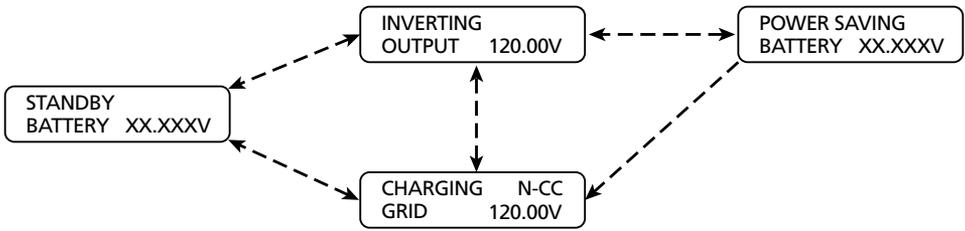
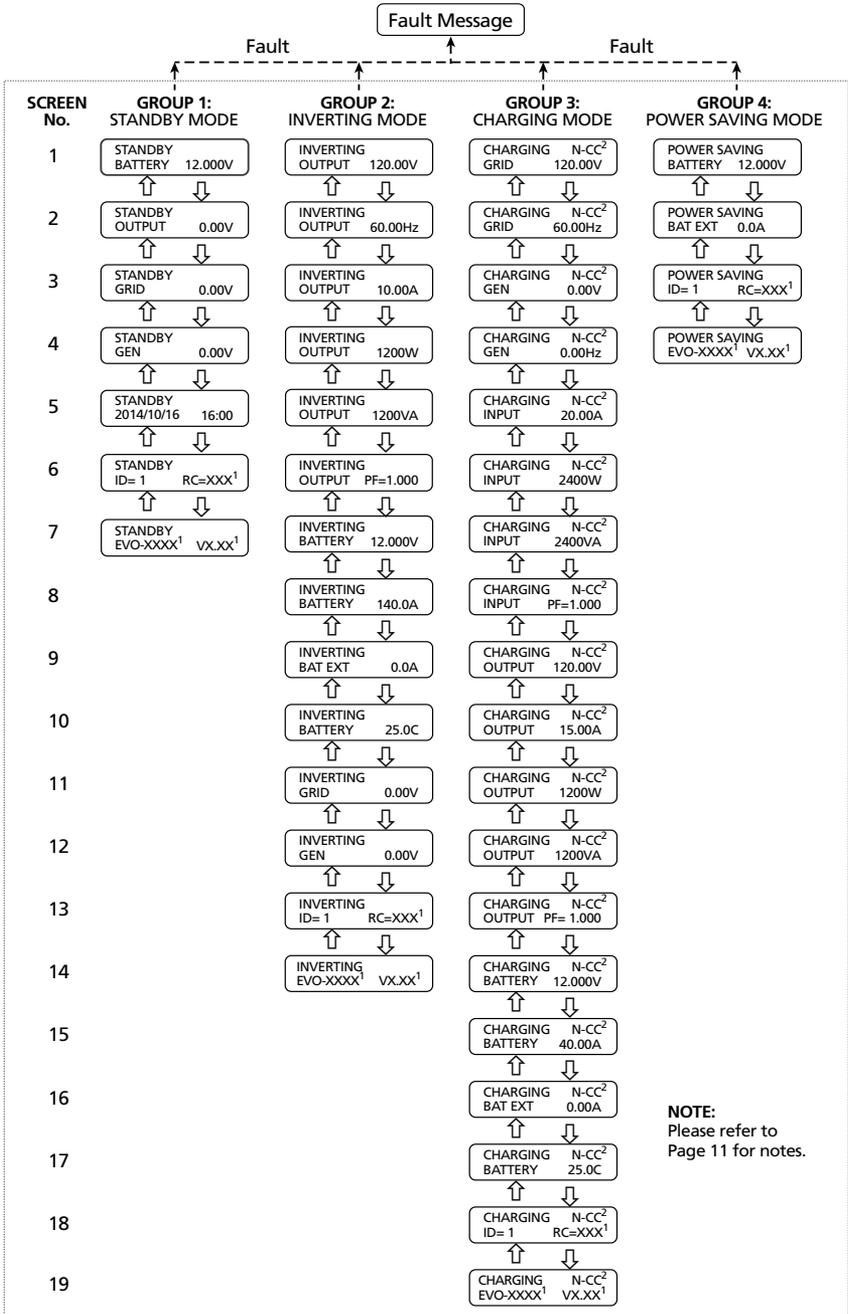
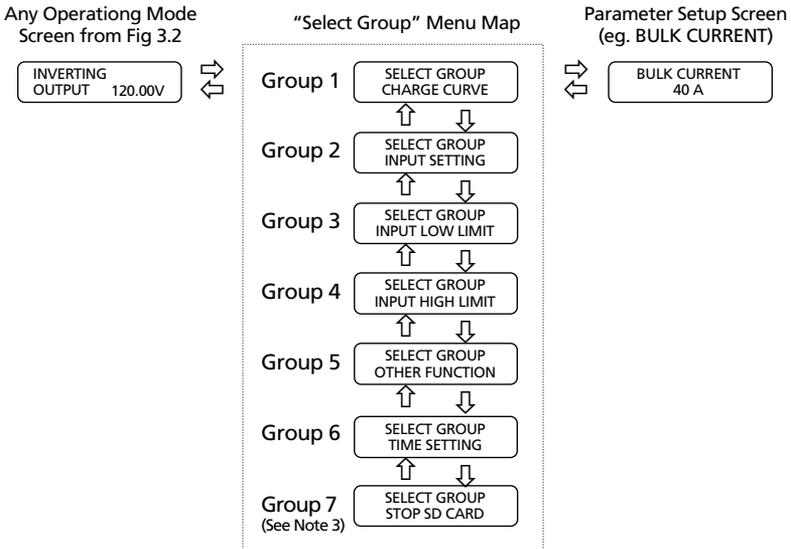

Fig 3.1 EVO-RC Mode Screens
Fig 3.2 Overall Operating Mode Display Screen Menu Map
Fig 4.3 “Select Group” Menu Map and Example for Setting Bulk Current
For the Standby Mode to be switched ON, the EVO™ should be in ON condition and should be operating in one of the 3 Operating Modes – “Inverting” or “Charging” or “Power Saving” (See Fig 3.1). When Standby Mode is switched ON, the EVO™ will exit its Operating Mode i.e. inverting or charging / AC pass through will be suspended.
(Fig 3.1)
There are 4 Operating Modes for the EVO™ Inverter/Charger that will be displayed on the Remote Screen at any given time (see Fig 3.1): (i) Standby (ii) Inverting (iii) Charging and (iv) Power Saving. Each mode has several screens of status information such as Voltage/Current/Power etc. as detailed at Section 3.6.2 and Fig 3.2. The majority of Mode Screens shown in Fig 3.1 are self explanatory, but the Charging Mode Status Screens require additional details which are shown at Section 3.6.1.
Please refer to 19 Screens shown against Screens 1 to 19 under Group 3: "CHARGING MODE" at Fig 3.2. The 1st line of the Display Screen for Charging Mode shows CHARGING on the left and abbreviated information format "Charging Mode - Charging Stage" on the right corner. The following abbreviations have been used:
For example, in Fig 3.2, the 1st line of information under Column 4 (Group 3) "Charging" shows "N-CC" in the right corner. This means that the unit is in Normal (N), 3-Stage Charging Mode and is in Constant Current (CC) Bulk Stage.
Overall Operating Mode Display Screen Menu Map is shown at Fig 3.2. Any screen within the Menu Map can be identified by 2 co-ordinates: "Operating Mode Group No." (Column) and "Screen No." (Row).
NOTES FOR FIG 3.2:
The desired Parameter Setup Screen can be reached by navigating through the “Parameter Group” Menus as shown in the Parameter Group Menu Map at Fig 4.3.
Please refer to Fig 4.3 below.
The **Enter** key is used to enter Parameter Setup Mode from any Operating Mode Screen in Fig 3.2. Example in Fig 4.3 below starts with Inverting Mode Screen (Operating Mode Group 2, Screen 1 in Fig 3.2). After the **Enter** key is pressed, the **Up/Down** keys are used to navigate to the different Parameter Groups (Groups 1 to 7). When the Group for the desired setting is displayed on the LCD, the **Enter** Key is used again to select this Group. The **Up** and **Down** Keys are used to move to the individual parameters within the Group.
NOTES FOR FIG 4.3:
Starting from any of the 4 Operating Mode Screens (shown at Fig 3.1), press **Enter** key. Screen "SELECT GROUP, CHARGE CURVE" as shown on the left will be displayed (Group 1 of "Select Group" Menu Map, Fig 4.3)